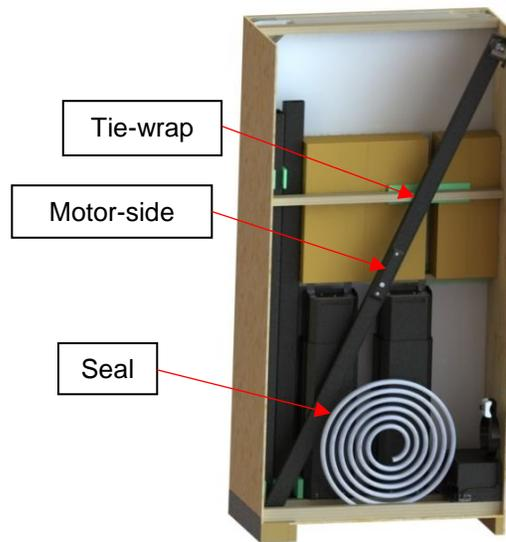

Figure 33
6) Remove the seal, the foam spacers and the optional parts box, either the tub mounting or the ground anchoring hardware, from the bottom of the crate and place them in a safe place. (Figure 33)
7) Carefully cut the tie wrap holding the long U-frame to the stud, remove the motor-side from the crate and place it in a safe place. (Figure 33)